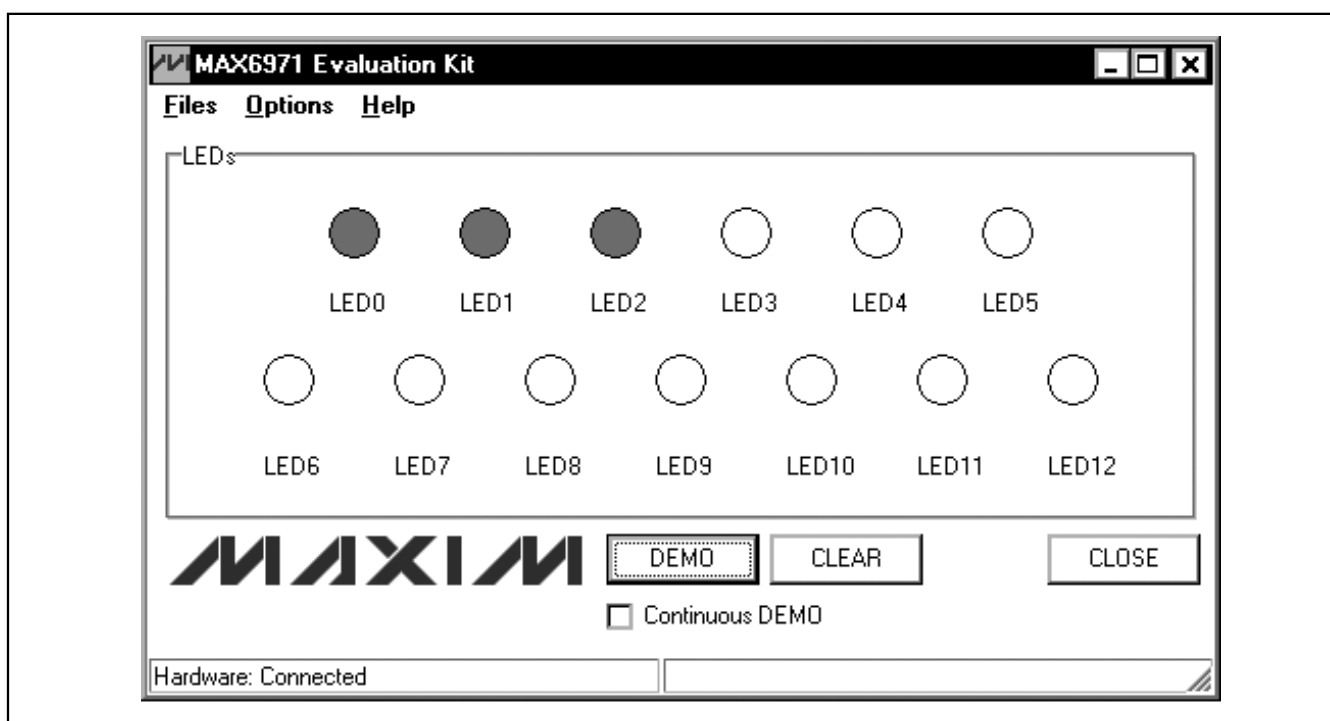

Figure 1. MAX6971 EV Kit Software Main Window
- 6) Start the EV kit software by opening its icon in the **Start | Programs** menu. The EV kit software main window should appear as shown in Figure 1.
The main window of the evaluation software (Figure 1) displays the state of each LED on the EV kit. Click the **LED0-LED12** icons located in the main window to turn